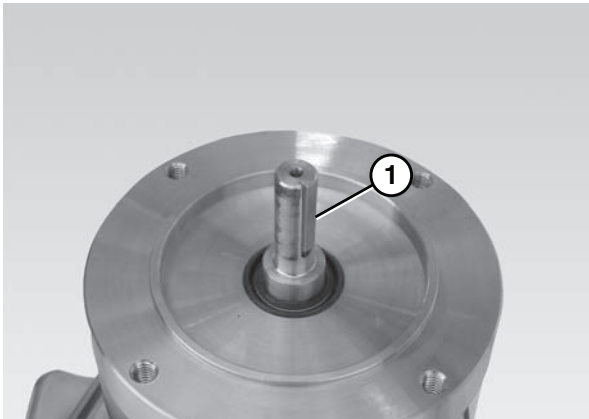

Figure 7
Ensure the gearmotor output shaft key (Figure 7, item 1) is situated properly before attaching the motor to the gear reducer.